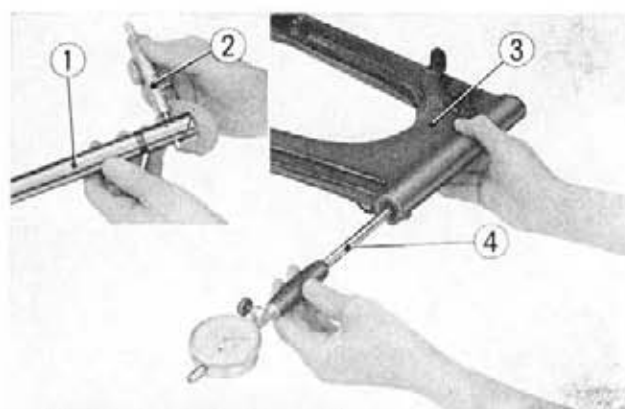

Fig. 12-9 ① Center collar
② Rear fork pivot bolt
3. Measure the bores of the rear fork pivot bushing with a inner dial gauge and the outside diameter of the center collar with micrometer, and if they are not within the serviceable limit shown below, they should be replaced. (Fig. 12-9)